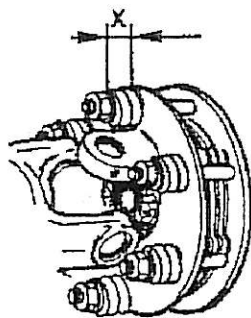

Fig. 12
- According to the power of the tractor used, adjust the spring length in accordance with the dimensions given here (fig.12/13)